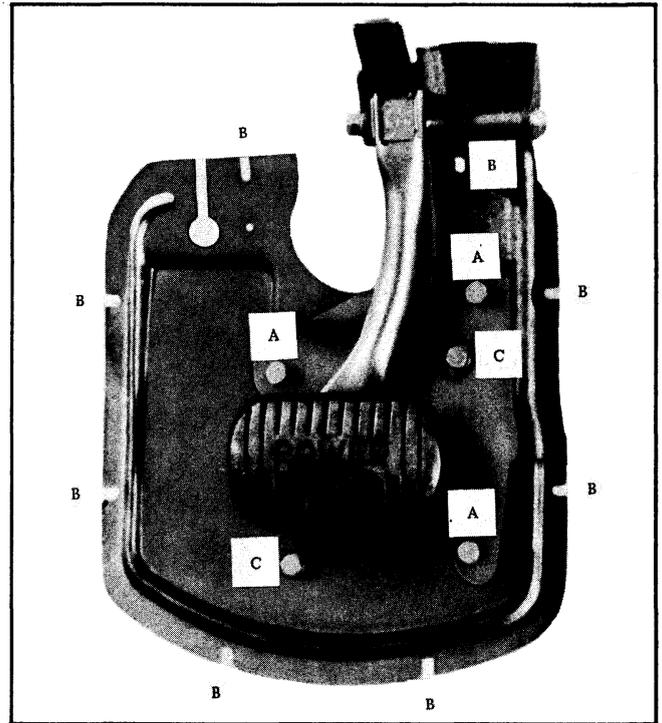

Fig. 7-9 Power Brake Attaching Screws
4. Remove three brake pedal bracket attaching bolts, (A), Fig. 7-9. Remove bracket and pedal assembly.
6. Remove mast jacket cover plate attaching screws, (B).
8. Remove the two cover plate to power cylinder bolts, (C), and remove the cover plate while positioning the power brake unit so it rests on the edge of the opening in the toe pan.
To replace, scrape off old sealing compound, then place a 5/16" bead of medium bodied sealer around entire toe pan groove and reverse sequence of operations. The master cylinder may be filled before installation. Avoid depressing the push rod until flex line is connected. Torque brake pedal attaching bolts (A) and cover plate to power cylinder bolts (C) 30-45 ft. lbs. (See Fig. 7-9) Always use new copper washers at outlet fitting. Fill master cylinder with G.M. Brake Fluid No. 11 and bleed system. Following replacement, test brakes and adjust stoplight switch. (See ELECTRICAL SECTION)